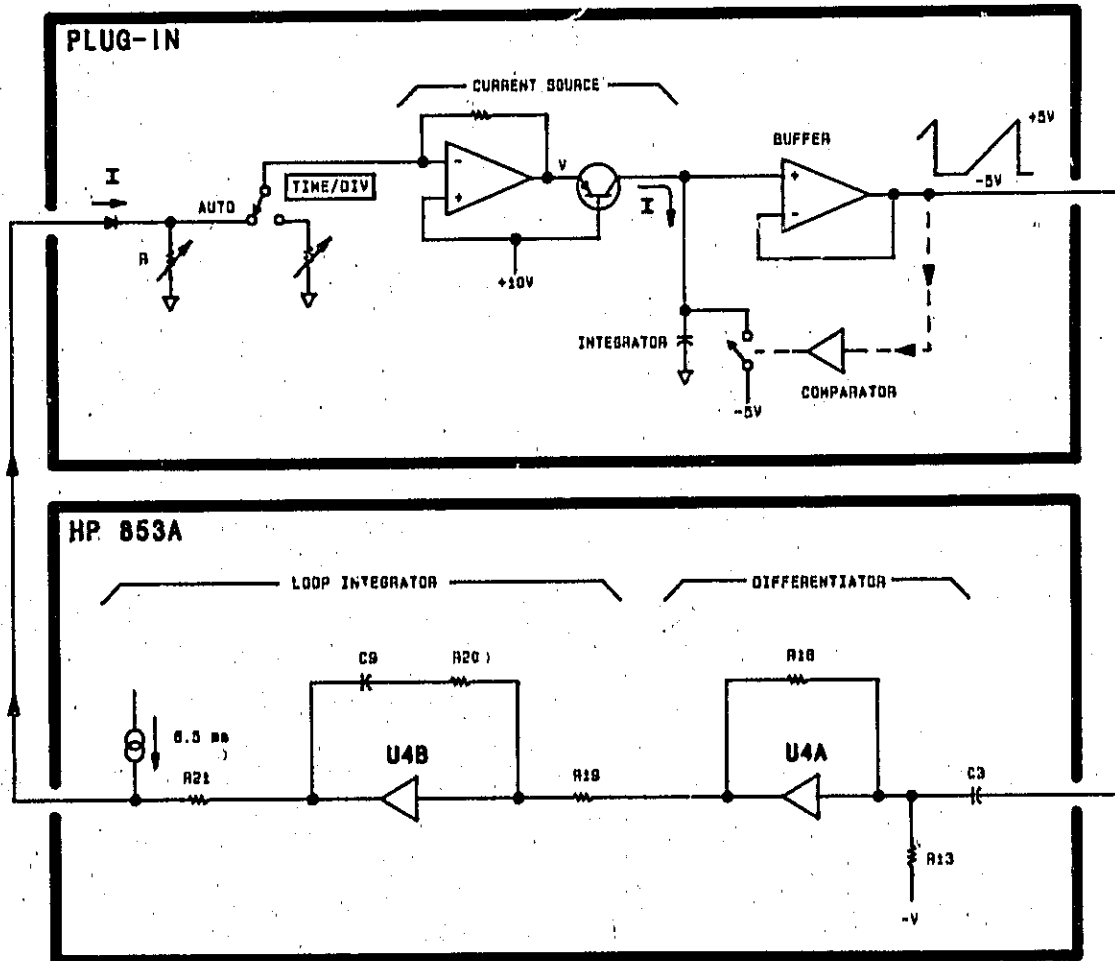

Figure 8-44. Automatic Sweep Time Limiter
Figure 8-44 illustrates how the basic sweep circuitry in the plug-in and the AST limiter circuitry interact. In the plug-in, a current source feeds an integrating capacitor, forming a ramp. When the ramp voltage has increased to $+5V$, a comparator triggers a switch to reset the integrating capacitor to $-5V$ and the cycle repeats. The value of the current source is proportional to the slope of the sweep voltage waveform. When AUTO TIME/DIV is selected, the current source is varied by both the plug-in and Interface Assembly A9. The plug-in varies the current source with resistors (R), according to plug-in, front-panel control settings. The Interface Assembly varies the current source with feedback current IFB.